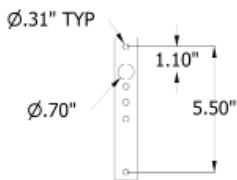
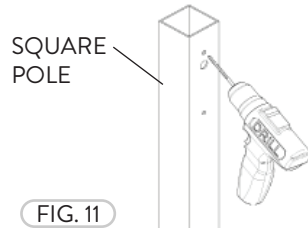

FIG. 10
FIG. 11
- 2** The Arm Mount drilling template is for either a Square or Round pole (Fig. 10). Drill holes on the Square pole by following the Drilling Template to mount the FFHL to the desired height (Fig. 11).